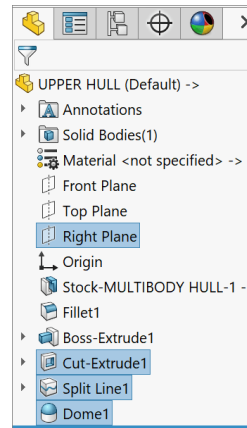

Fig. 22
Step 1. **Ctrl** click **Right Plane**, **Cut-Extrude1**, **Split Line1** and **Dome1** features to select Plane and features, **Fig. 22**.